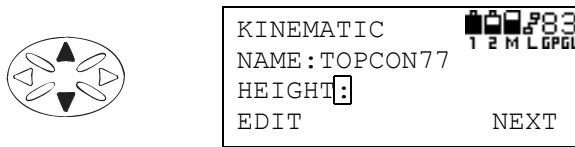

Figure 3-47. Enter Height Information
4. Press the **up/down cursor key** to select the HEIGHT parameter (Figure 3-47). Enter the antenna height as described in “Selecting Parameters” on page 3-10.